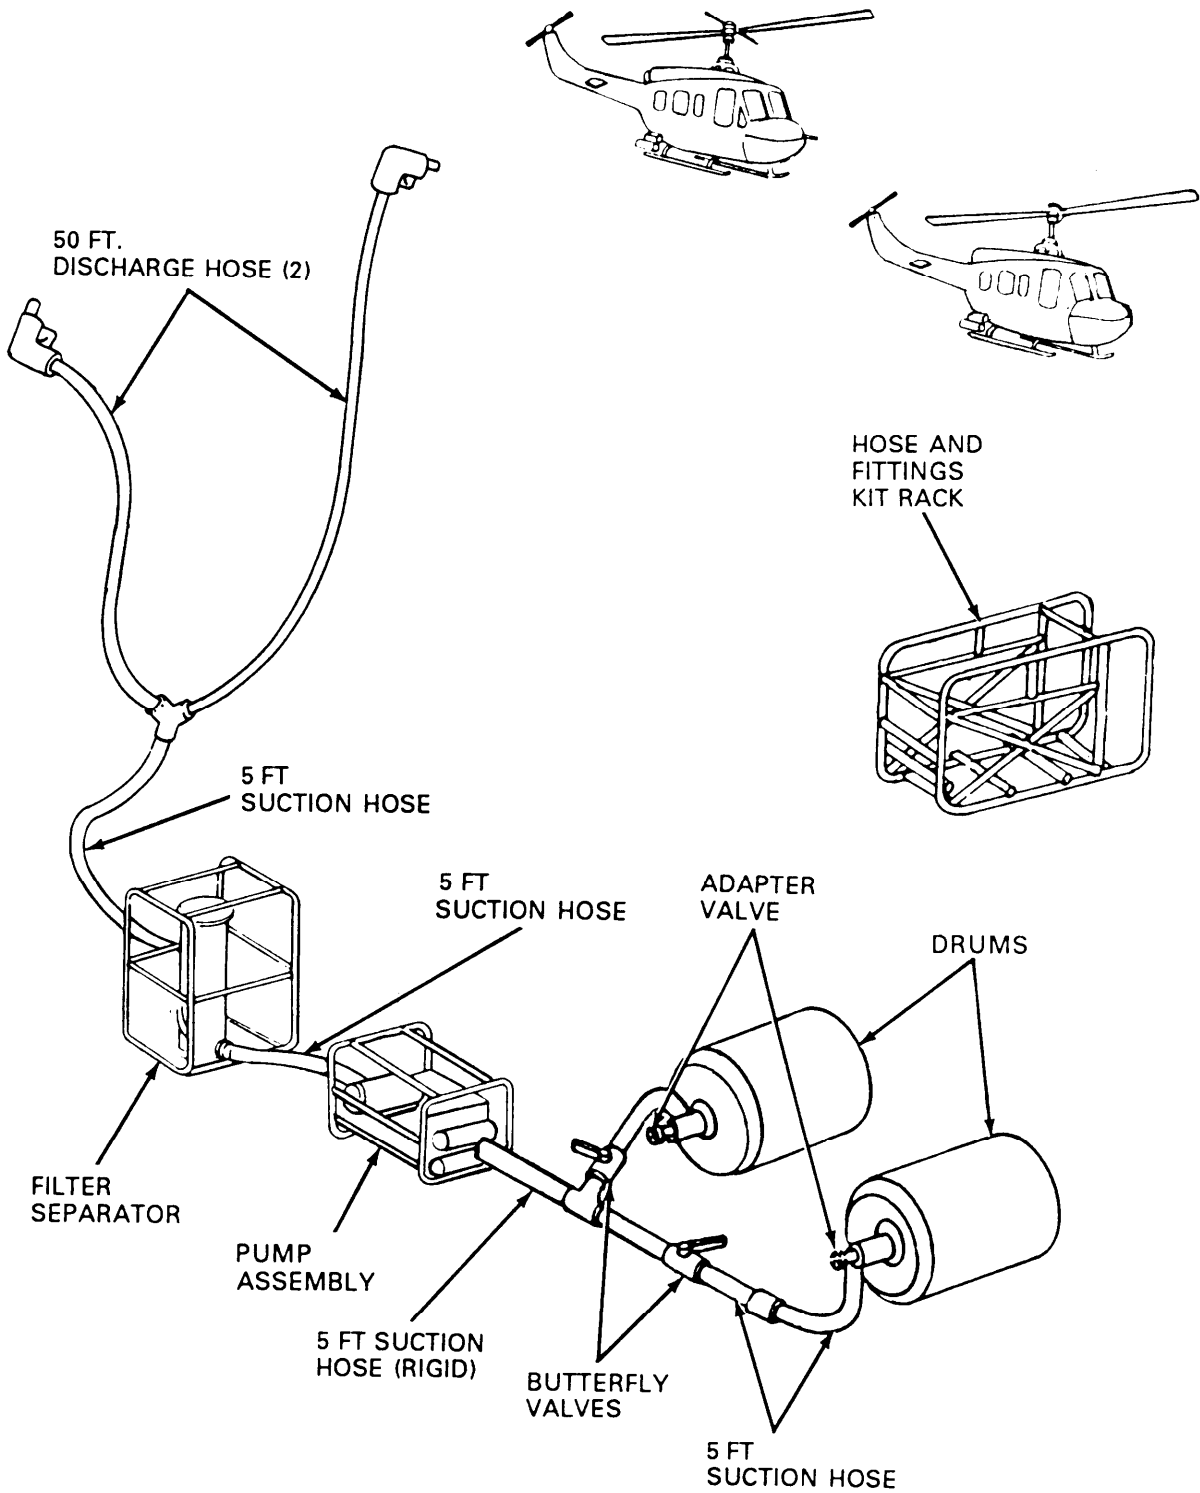
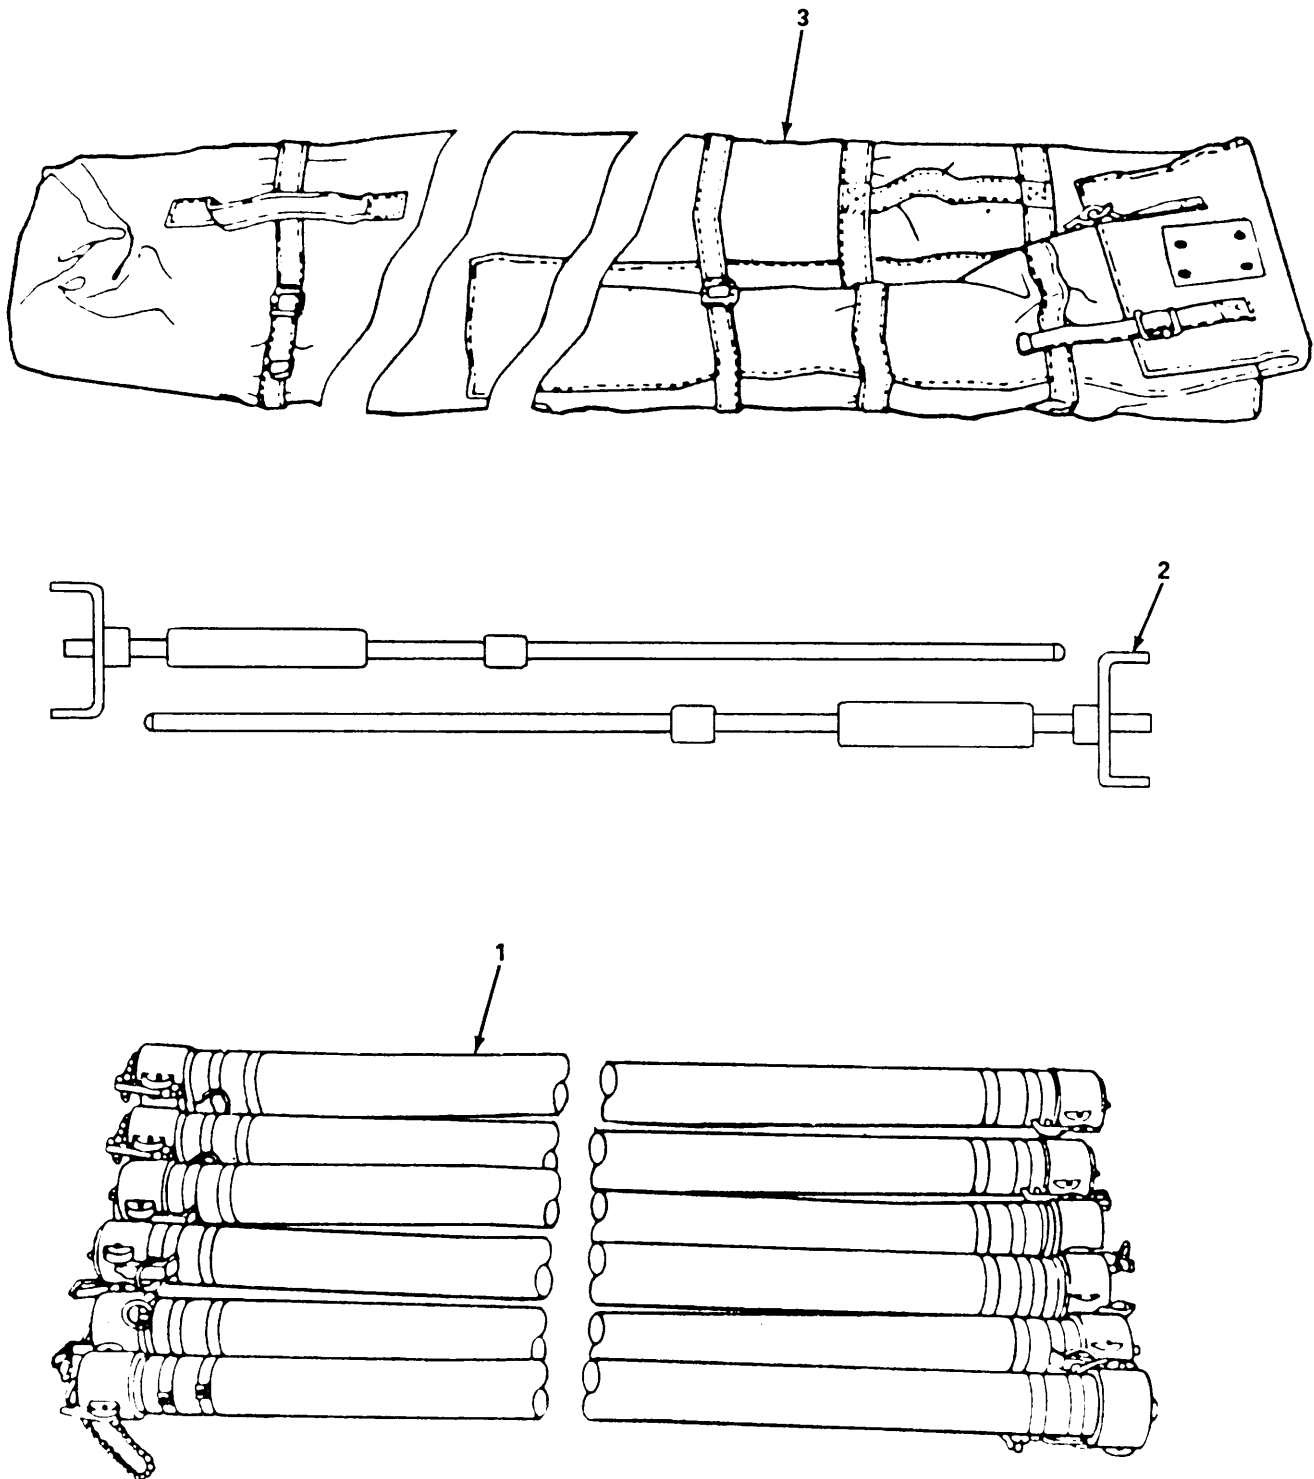
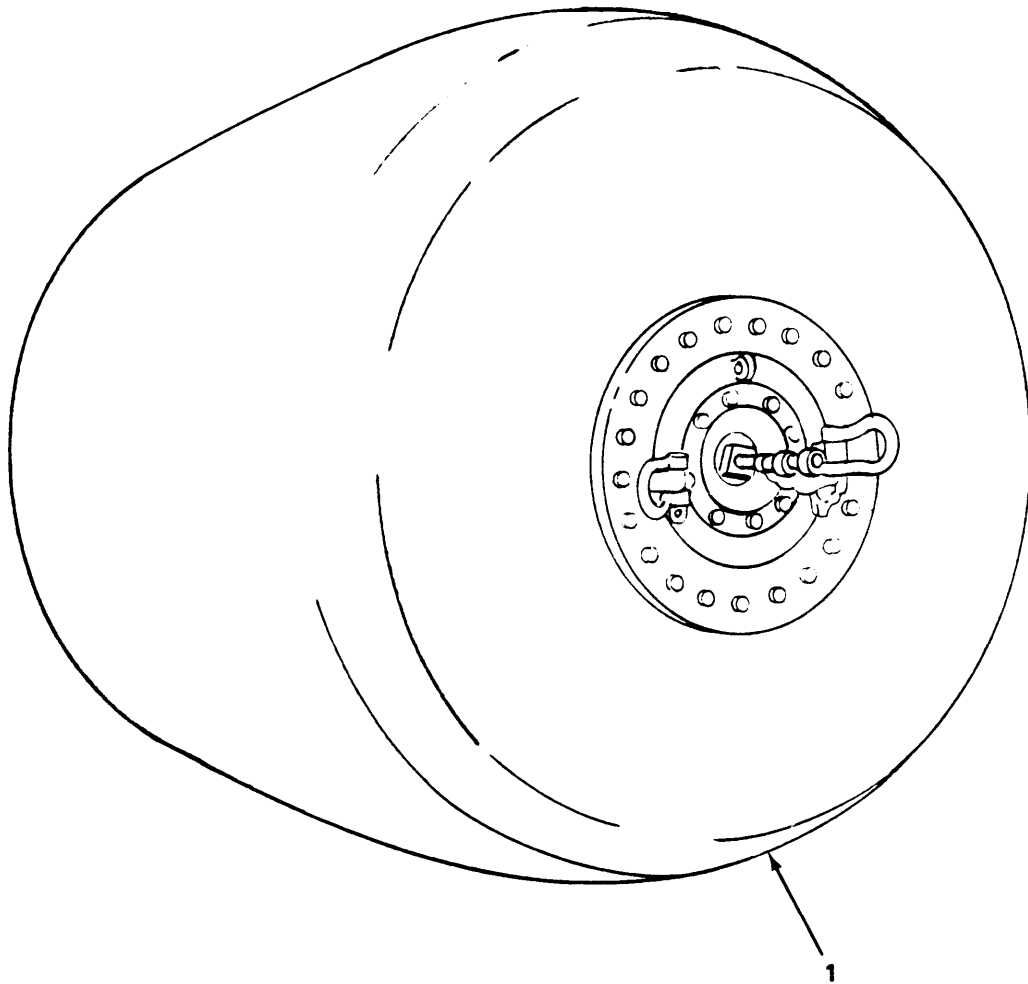

Figure 1-1. Typical Layout of FARE.
Figure 1-5. Suction Hose Kit.
Figure 1-6. Collapsible Drum.
b. Equipment Name. Forward Area Refueling Equipment, hereinafter referred to as FARE (figure 1-1)
a. *Characteristic* FARE (figure 1-1) consists of simple, lightweight refueling equipment that can be transported by fixed-wing and rotary wing utility and cargo aircraft. This equipment includes a pump/engine assembly (figure 1-2), a filter/separator assembly (figure 1-3), discharge hoses, fittings and frame assembly (figure 1-4) a suction hose kit (figure 1-5) and a collapsible fabric fuel drum (figure 1-6). (The drum is procured separately.) Each assembly is contained within a tubular aluminum framework and can be handled by two persons.
(1) Primarily, the equipment is used to transfer fuel from 500-gallon (1892.5 liter) collapsible drums to helicopters in forward combat areas.
(2) Refueling fixed-wing aircraft and ground vehicles is a secondary function.
(3) The equipment is provided with two types of nozzles, a closed circuit nozzle and a gravity fill adapter nozzle, that will permit the operator to service aircraft or ground vehicles having either a gravity-feed or closed-circuit fuel system capability.
(4) A 4 in. x 2 in. (10.16 cm x 5.08 cm) adapter and a 3 in. x 2 in. (7.62 cm x 5.08 cm) adapter are included to allow acceptance of fuel from other sources.
(2) *Suction hose kit* (figure 1-5). There are two kits, each consisting of the following items:
(3) *Collapsible drum* (figure 1-6). Refer to TM 10-8110-201-14&P for pertinent information on the collapsible drum. The collapsible drum (1) is issued separately and is not part of the FARE.